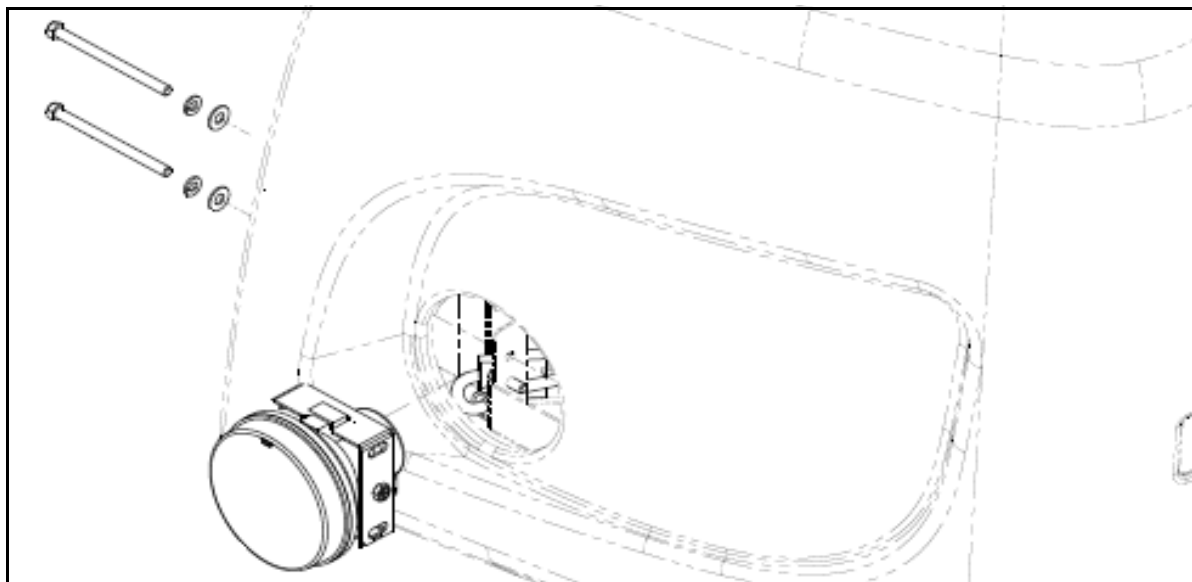

Figure 2.
18. Orient the fog light assembly in the bumperette opening. Using the existing two (2) capscrews, flat washers and lock washers secure the fog light assembly to the bracket (refer to Figure 2). Torque to 70-80 in-lbs.